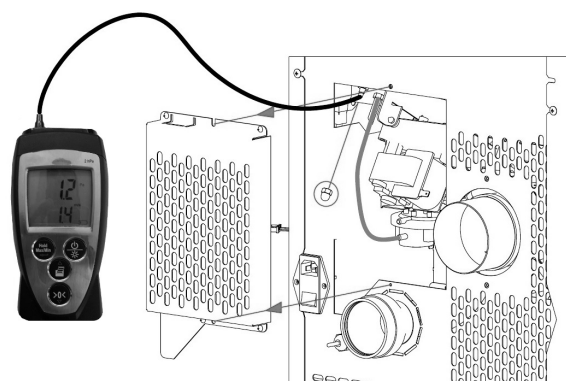

Fig. 45 - Digital pressure switch connection
- Connect a digital pressure switch with a tube to detect the depression (see **Fig. 45**).